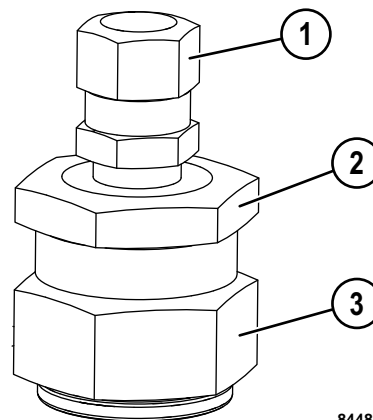

FIGURE 30-4. PISTON ACCUMULATOR CHARGING VALVE
*Nitrogen pressure may be present in the accumulator. Only turn the swivel nut (small hex nut, 2, Figure 30-4) during the next step. Turning the entire valve body may result in the valve assembly being forced out of the accumulator by the nitrogen pressure inside. Wear a protective face mask when discharging nitrogen gas.*